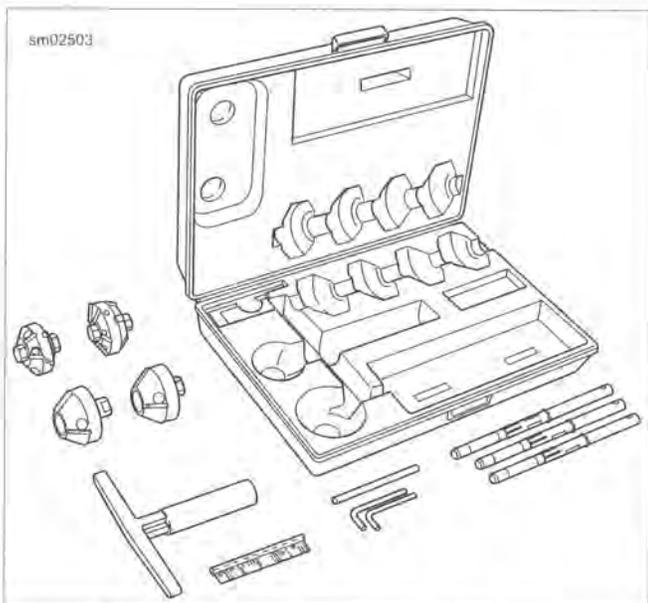

Figure 3-49. Neway Valve Seat Cutter Set
10. See Figure 3-49. Obtain the NEWAY VALVE SEAT CUTTER SET (Part No. HD-35758-C). Choose the cutter pilot that fits properly into the valve guide hole. Securely seat the pilot by pushing down and turning using the installation tool supplied in the tool set.